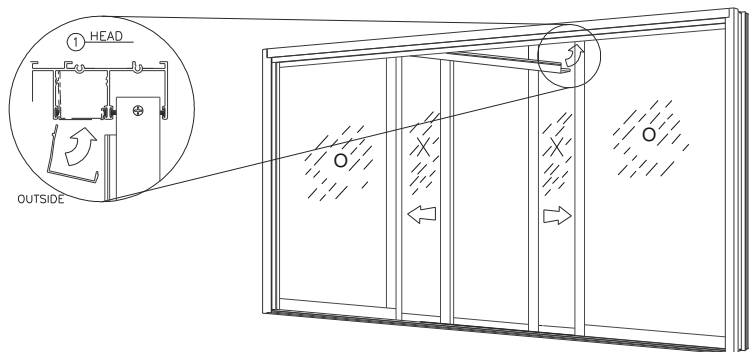

Figure 33:
7. Install the head closer between the two fixed panels (Figure 33).